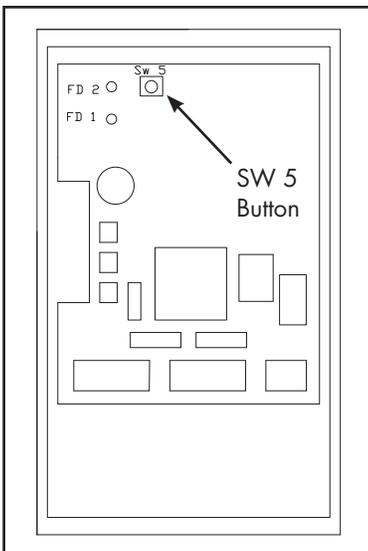

Figure 4.2 - Control Box Interior
- Locate and press the button marked SW5 (Figure 4.2) on the inside of the control box until the green LED light begins to flash. The light will continue flashing for ten seconds.